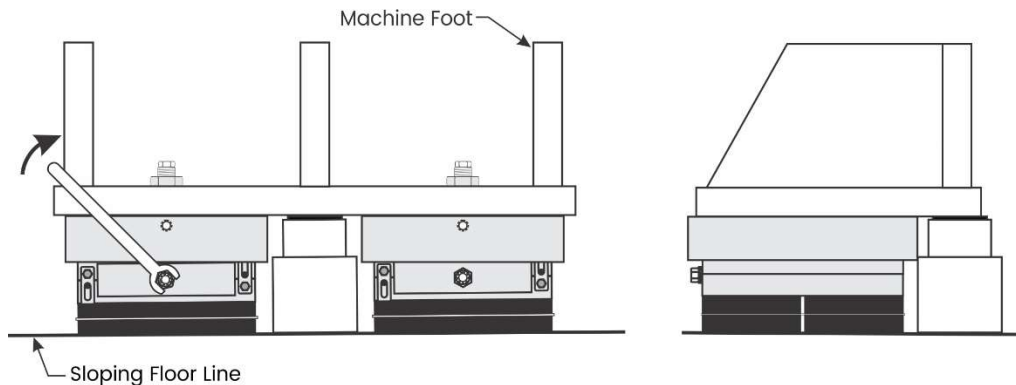

FIGURE 3
- Place a hydraulic cylinder(s) near the isolators to be adjusted. Due to the high concentrated load, the cylinder should be located under a foot/leg gusset, tie rod, etc. See Figure 3.